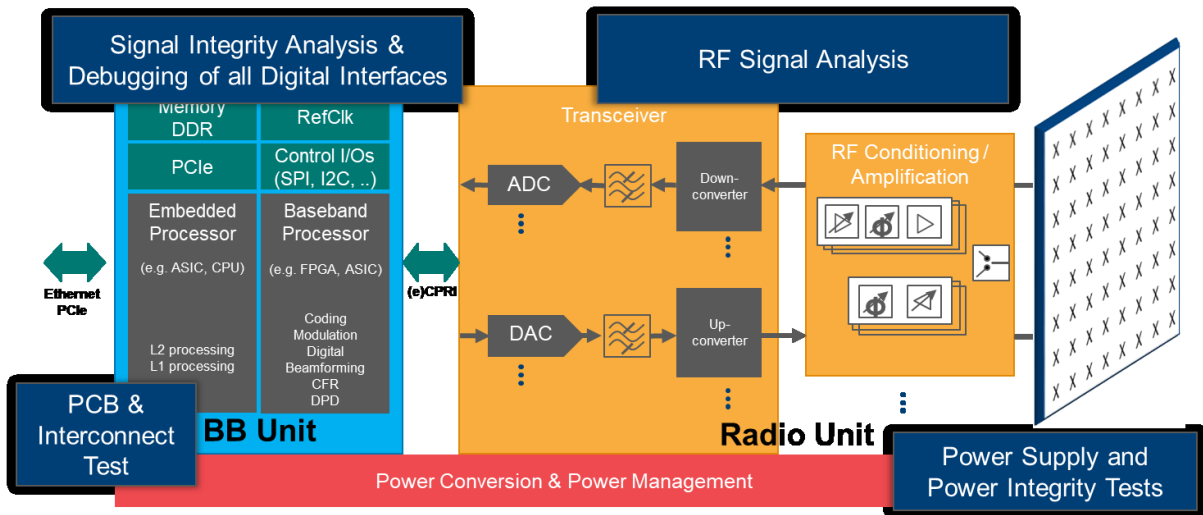

Figure 3-1 5G Base Station architecture
Figure 3-1 illustrates at high-level of the 5G base station architecture that is divided into two units, i.e. baseband (BB) unit and radio unit.
RF frontend contains the circuit, components between the digital baseband unit and antenna (see Figure 3-1). Components, such as RF filter, RF amplifier, Low-noise amplifier (LNA), and mixer are involved here. In this chapter, we are going to tackle the power amplifier (PA) characterization and optimization.